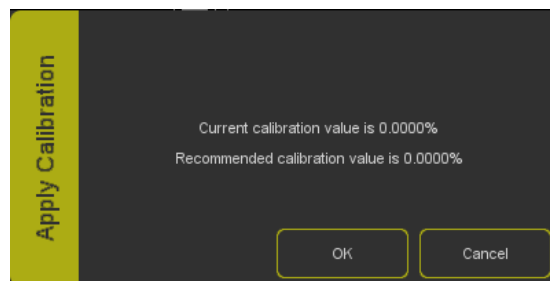

Figure 11.4: Apply calibration value
5. Apply the recommended calibration value in the dialog (figure 11.4)